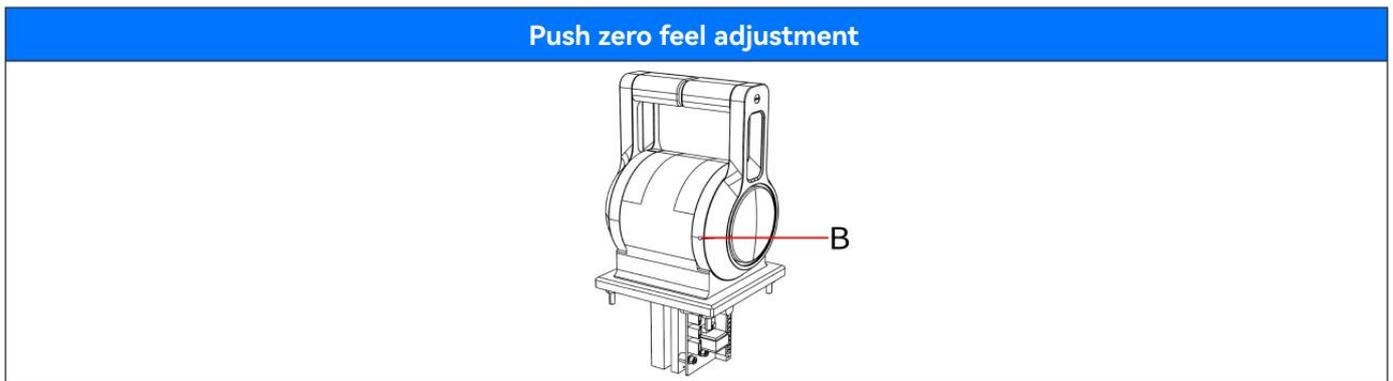

Figure 4.2
5. As shown in Figure 4.2, use an Allen wrench at B to rotate and adjust the strength of the push zero feel.